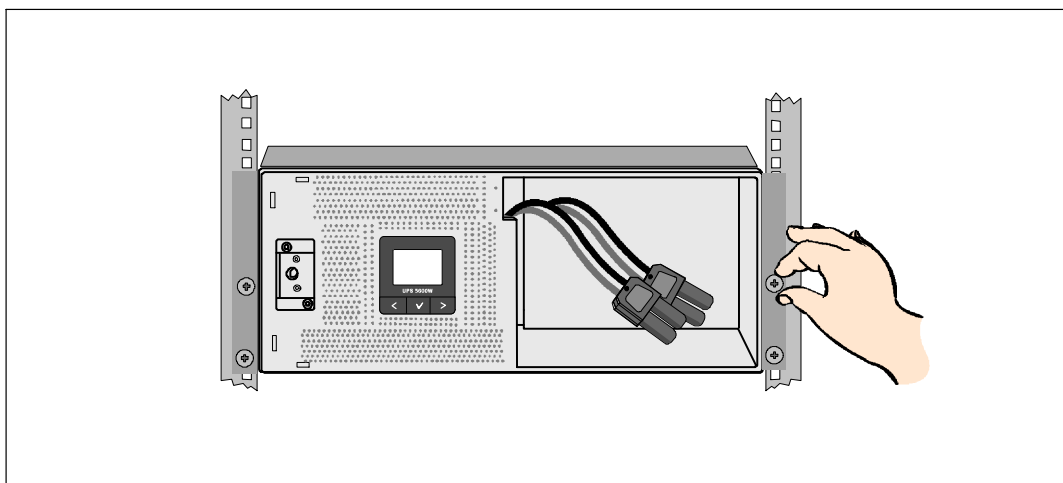

Figure 11. Securing the Cabinet
- Secure the front of the cabinet to the rack using the four thumbscrews on the mounting brackets (see Figure 11). Tighten by hand; do not use power tools. Repeat for any additional cabinets.